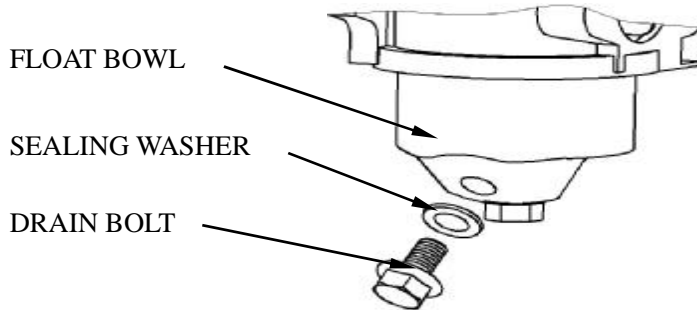

Figure 18
3. Whether fuel can be delivered into carburetor, to check this, the user can loosen drain bolt of carburetor and set the fuel valve to the ON position. (See Fig.18)